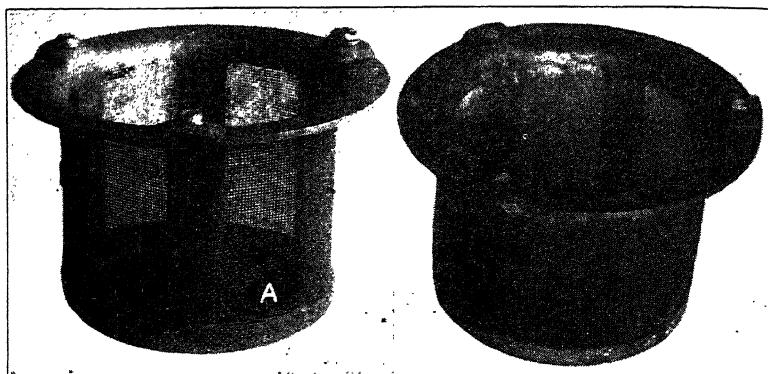

Fig. 26. Left—Oil Screen Damaged by Corrosion
**Replacing Damaged Oil Screens.** Fig. 26 illustrates an oil screen which has been damaged by accumulation of sludge in the crank case. Doubtless there was some acid in the sludge